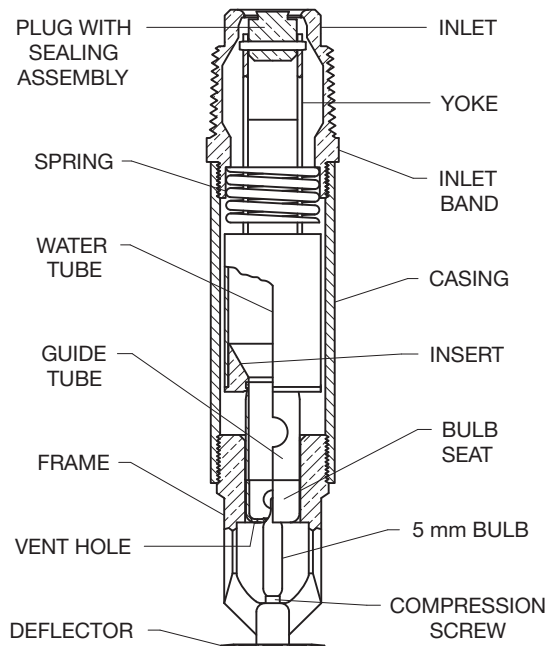

FIGURE 1
When TYCO Series DS-1 5.6K Pendant, Upright, and Horizontal Sidewall, Standard Response, Standard Coverage Dry-type Sprinklers are in service, water is prevented from entering the assembly by the Plug with Sealing Assembly (see Figure 1) in the Inlet of the sprinkler.
- a pipe wrench on the Inlet Band or the Casing (see Figure 1)
A Vent Hole is provided in the Bulb Seat (see Figure 1) to indicate if the Dry Sprinkler is remaining dry. Evidence of leakage from the Vent Hole indicates potential leakage past the Inlet seal and the need to remove the sprinkler to determine the cause of leakage; for example, an improper installation or an ice plug. Close the fire protection system control valve and drain the system before removing the sprinkler.